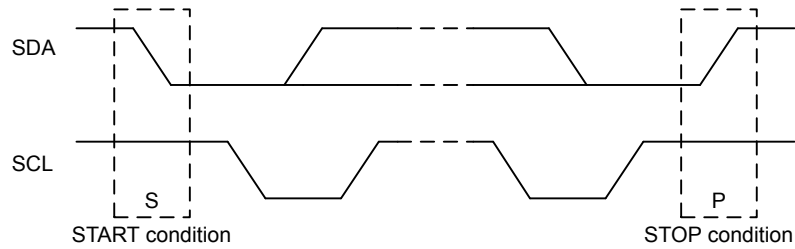

Figure 23.4. I²C START and STOP Conditions
START and STOP conditions are used to initiate and stop transactions on the I²C-bus. All transactions on the bus begin with a START condition (S) and end with a STOP condition (P). As shown in Figure 23.4 I²C START and STOP Conditions on page 678, a START condition is generated by pulling the SDA line low while SCL is high, and a STOP condition is generated by pulling the SDA line high while SCL is high.